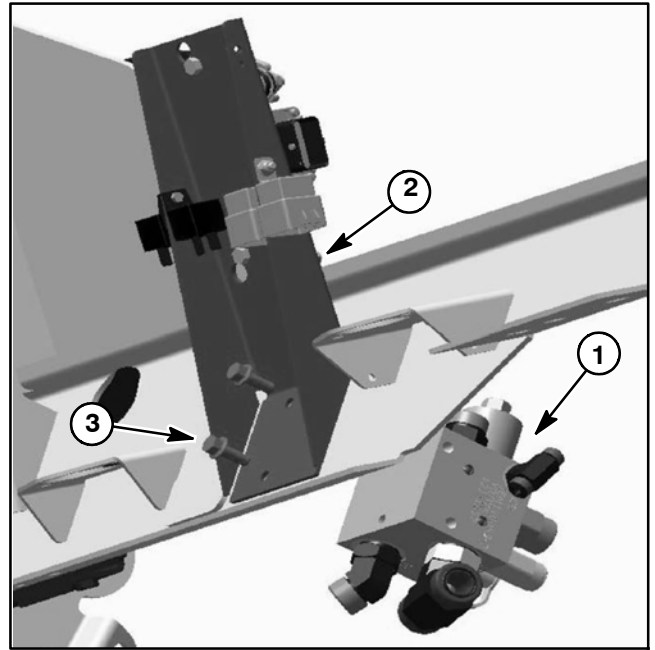

Figure 99
NOTE: The flange head screws that secure the right side PTO manifold also secures the controller mount to the frame (Fig. 99). Support controller mount before removing the right side PTO manifold.
- NOTE:** Make sure that the controller mount is secured when installing the right side PTO manifold (Fig. 99).